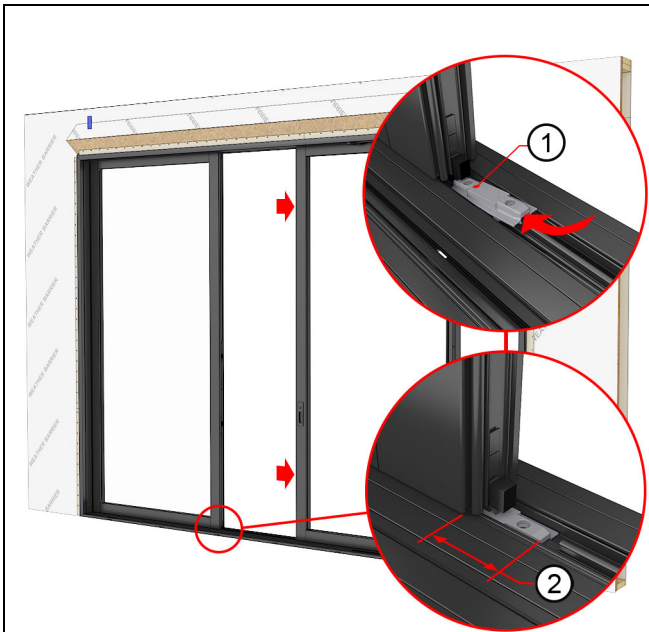

Figure 98
6. Snap the injection molded bottom stationary bracket in place and slide under the stationary panel. See Figure 98.